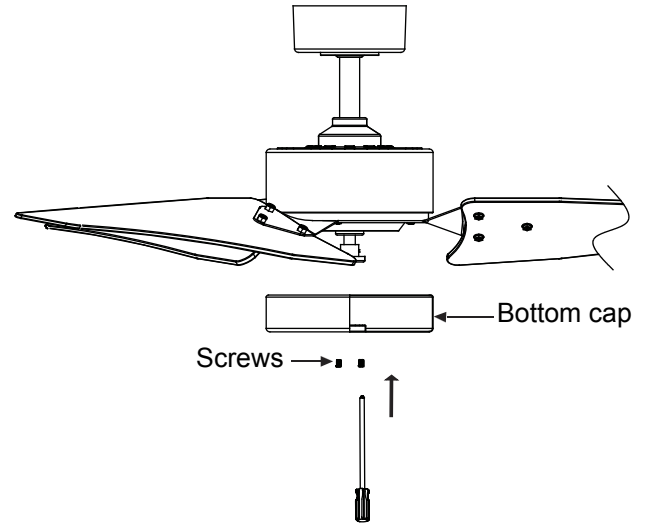

Fig. 16
Step 1. Remove and save the two pre-attached screws on the mounting ring attached to the motor shaft. (Fig. 16)